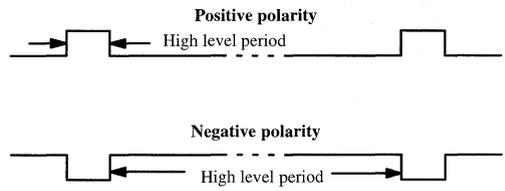

Figure 7. Vsync polarity detection
- In the second interrupt of the cycle, timer 0 is programmed to be used as gated timer with $f_{osc}/12$ clock. GATE bit is set and timer counts only during Vsync high level. In the third interrupt, TR0 bit is reset to stop counting. At this time, TH0 and TL0 registers contain a representative value of the Vsync high level duration (in μs if 12MHz crystal is used). If this duration is higher than the Vsync period divided by 2 then, Vsync has a negative polarity else it has a positive polarity (see Figure 7).